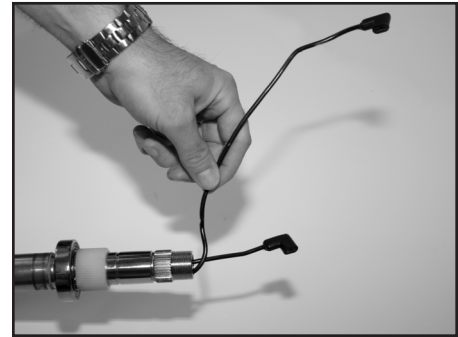

Figure 6
12. Remove the long horn wire from the inside of the shaft by disconnecting the blade terminal at the outer shaft contact ring pulling the wire out the top center hole of the shaft. Figure 6